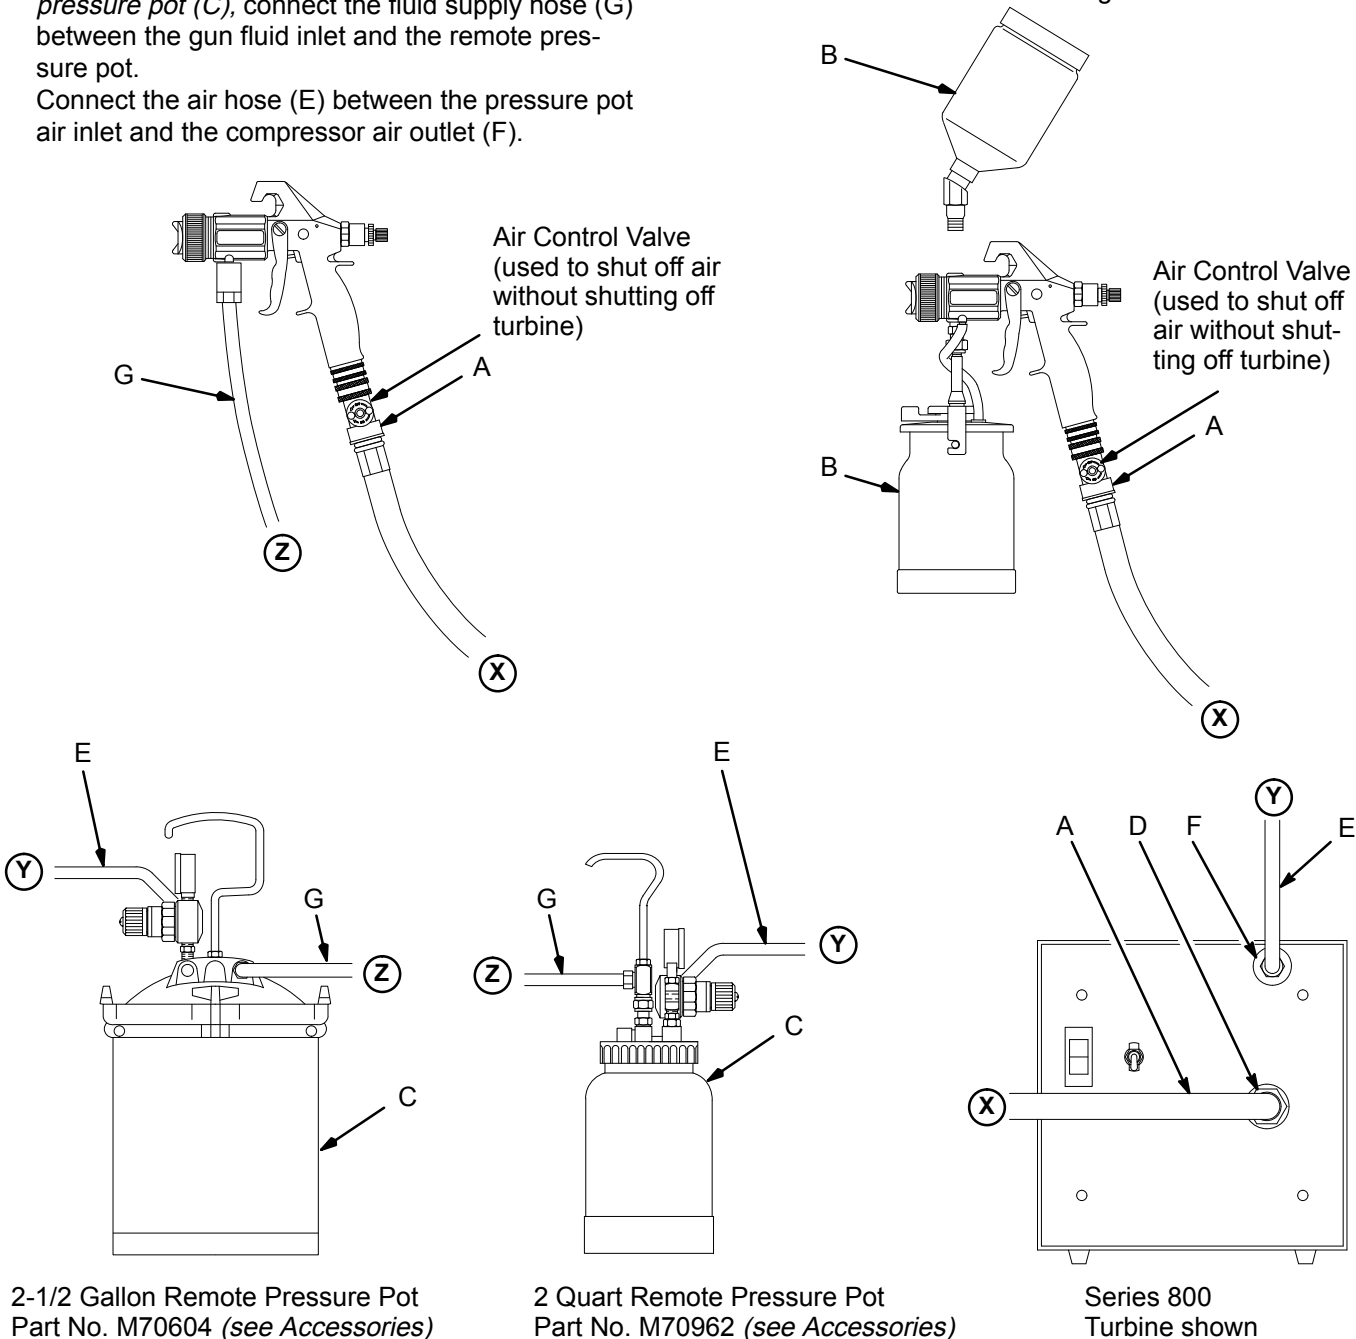

Fig. 1
2. Connect the gun air supply hose (A) between the turbine air outlet (D) and the gun air inlet. **DO NOT** use a wrench to tighten connections; hand-tighten only. See Fig. 1.
3. *If using a spray gun cup (B),* connect the cup to the gun fluid inlet.
4. *For Series 800 only: If using an accessory remote pressure pot (C),* connect the fluid supply hose (G) between the gun fluid inlet and the remote pressure pot.
- The circled letters in Fig. 1 indicate hose line connections.